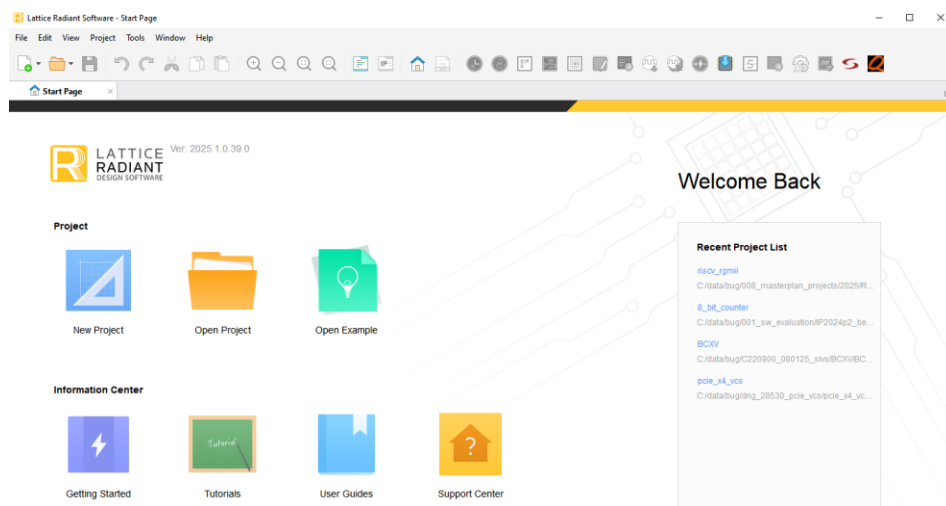

Figure 5.1. Lattice Radiant Software
1. Open Lattice Radiant software, as shown in Figure 5.1.